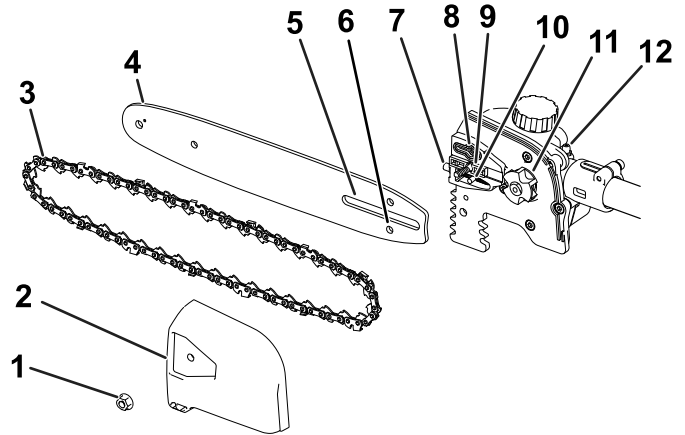

Figure 15
2. Remove the side cover; turn the bar cover screw counterclockwise until the screw is removed, then remove the side cover (Figure 15).
**Important:** Ensure that the chain adjusting stud is inserted into the chain adjusting stud slot on the guide bar (Figure 15).
You may need to rotate the chain-tensioning screw to fit the stud into the slot on the guide bar (Figure 15).
7. Check the oil outlet (Figure 15) for debris and clean the area if necessary.
2. Clean the grease fitting with a rag (Figure 15).